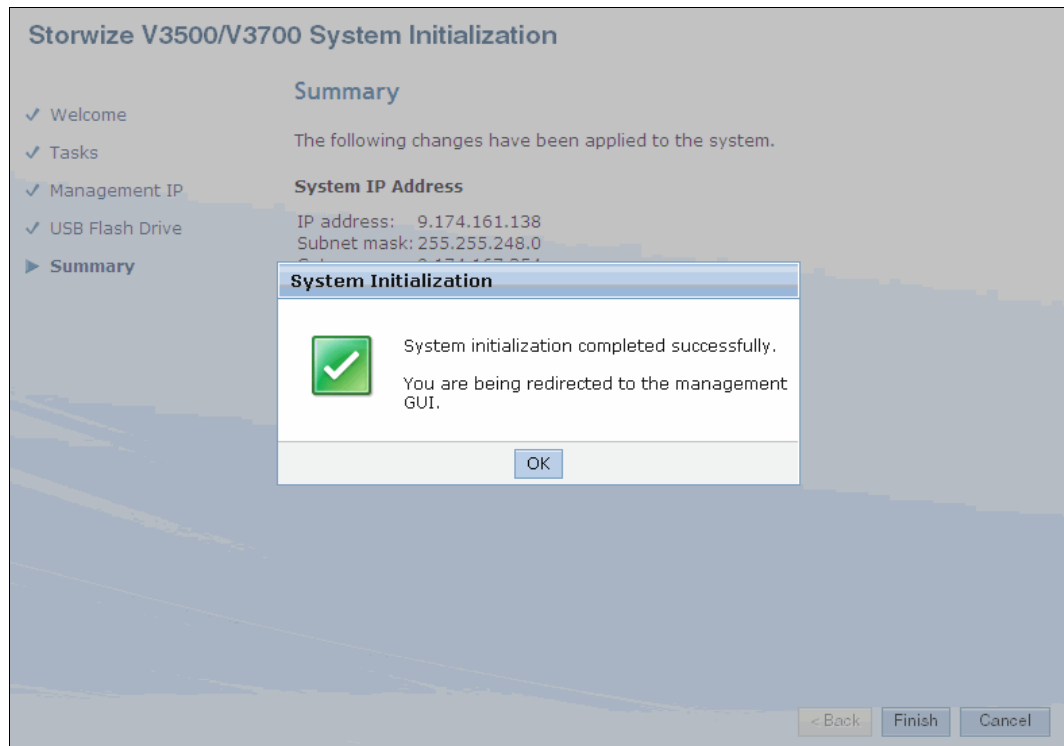

Figure 2-18 System Initialization complete
12. The initial setup is now complete. If you have a network connection to the IBM Storwize V3700, the wizard shows the initialization completed successfully, as shown in Figure 2-18.